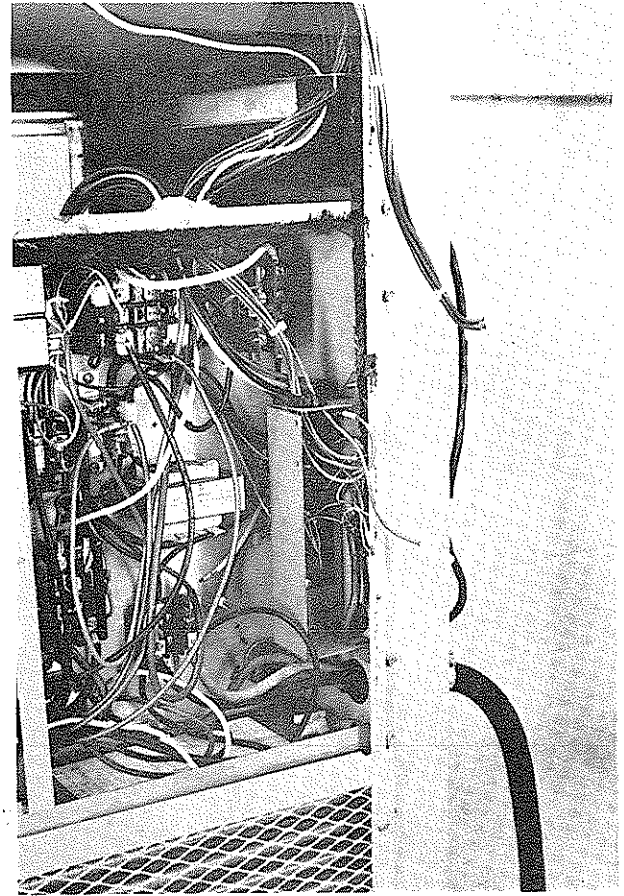

FIGURE 6
- 5.) ROUTE ELECTRICAL HARNESS LEADS DOWN THRU THE (2) 1½" Ø SNAP BUSHINGS IN FILTER BACK AND CONTROL PANEL AND THRU 7/8" Ø SNAP BUSHING INTO LOW VOLTAGE BOX.
- 6.) CONNECT LEADS WITH FORK TERMINALS TO CORRESPONDING POINTS ON TERMINAL STRIP, I.E., T,Y,G. (SEE FIGURE 6)
- 7.) WIRE NUT LEADS WITH 5/8" STRIPPED ENDS TO Y1, and Y2 LEADS FROM THERMOSTAT. (SEE FIGURE 6)